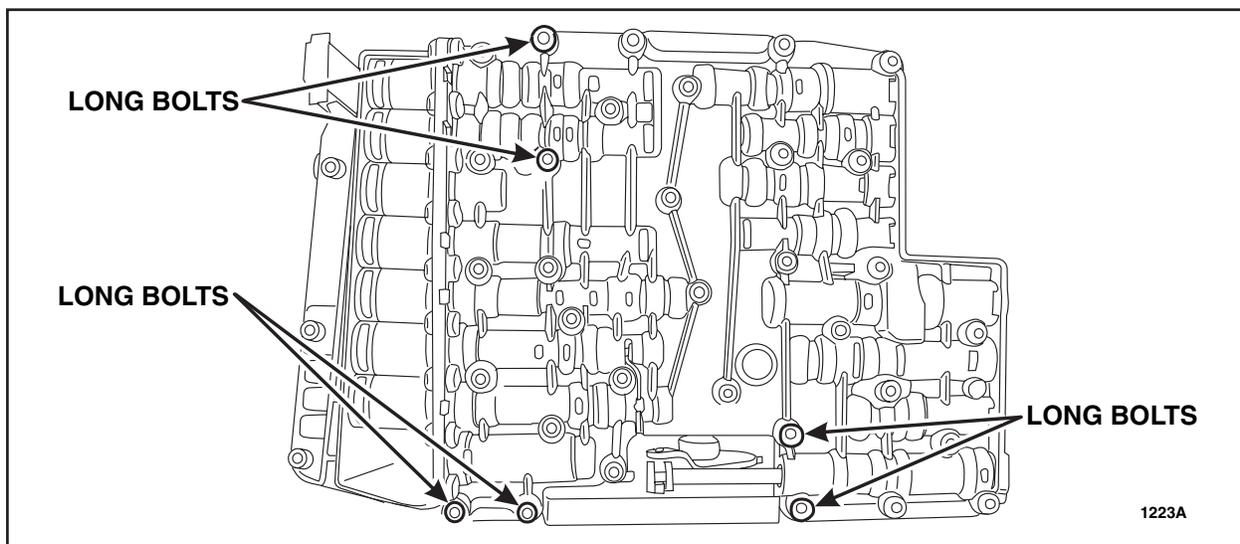

FIGURE 2
5. Remove the 6 long bolts from the molded lead frame. See Figure 2.